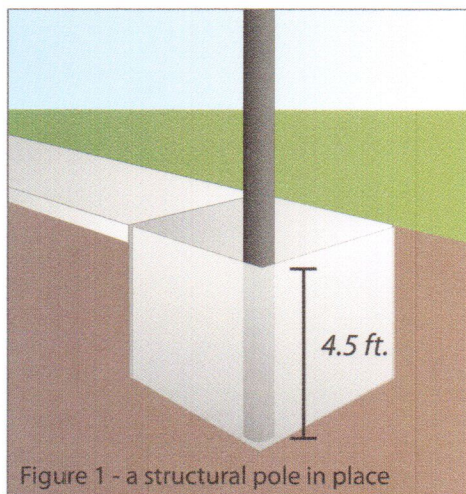

Figure 1 - a structural pole in place
Now insert the eye bolts (B) in the holes in the poles. Tighten a nut (D) over a curved washer (E) on the back side of the pole. See Figure 1 for proper configuration.